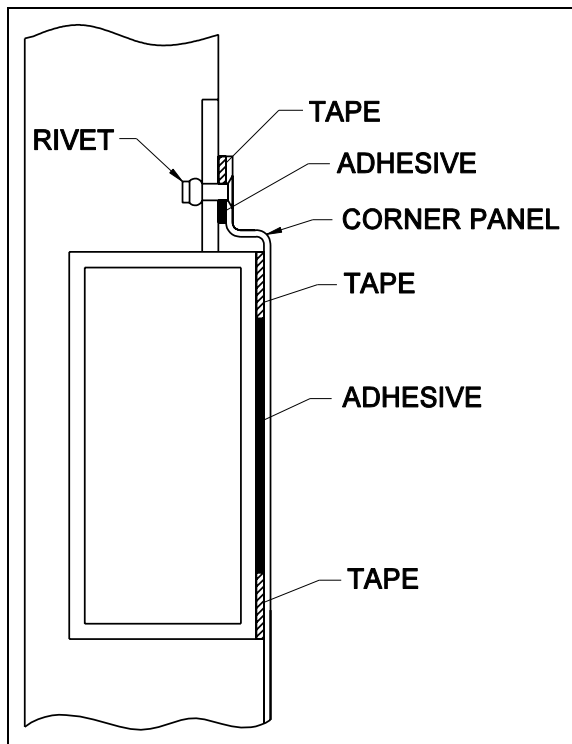
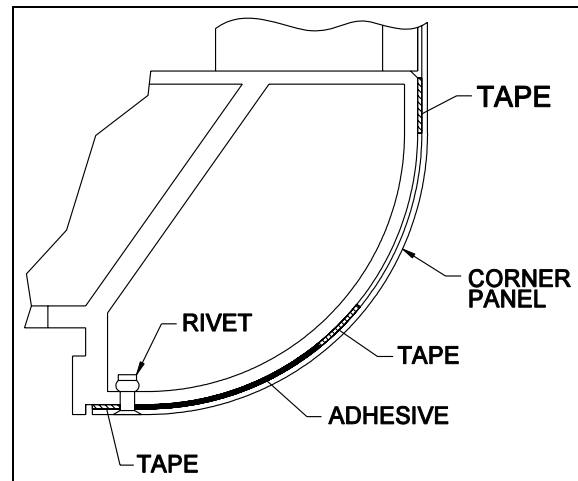

FIGURE 46 : CORNER PANEL INSTALLATION – UPPER PART
FIGURE 47 : CORNER PANEL INSTALLATION – LOWER PART
4. Remove panel upper rivets (figure 46) and lower rivets (figure 47) with a 1/8" drill bit, a hammer and a punch.
- Refer to figure 46 and figure 47 for adhesive, tape and rivet position.